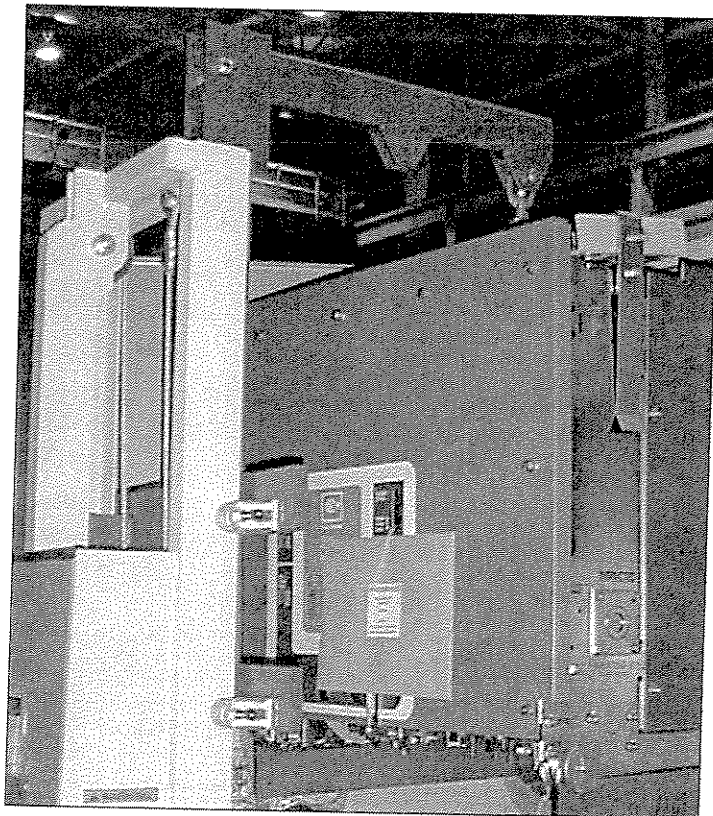

Figure 33. Lifting and Setting the Breaker in the Housing.
1. Using a portable lifting device, with the breaker lifting yoke attached (see Figure 33), place the breaker onto the extension rails.